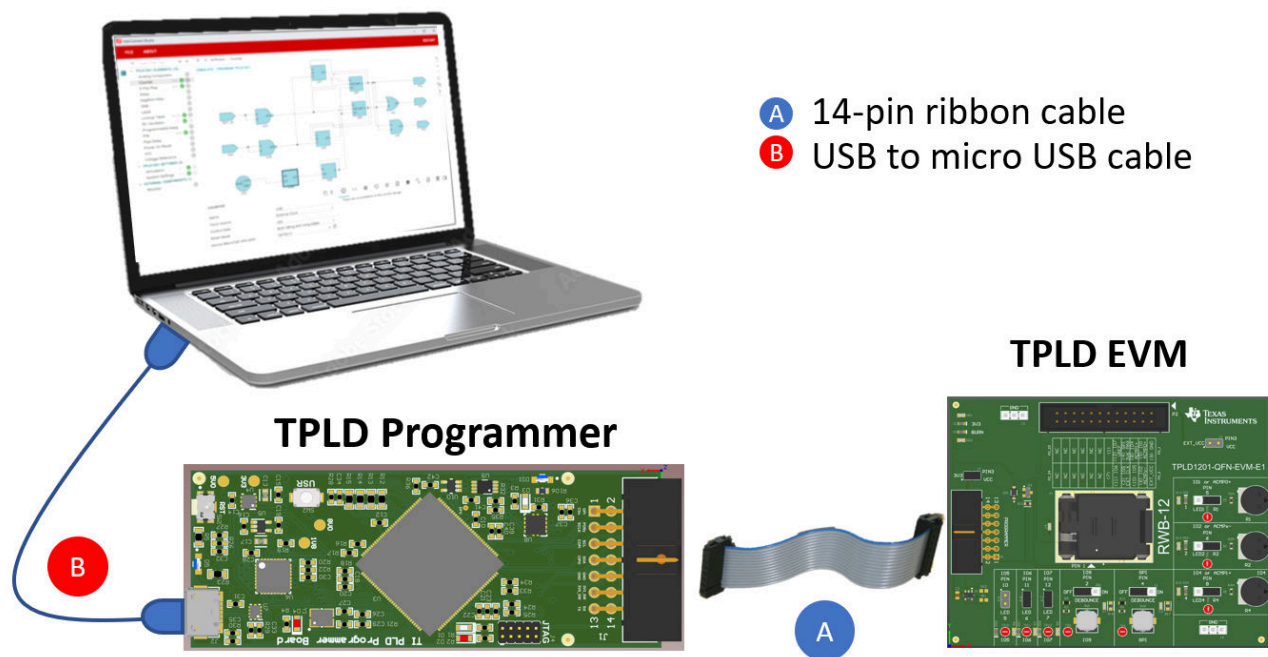

Figure 3-1. Connecting a TPLD EVM and Programmer
1. Connect the programmer board to a computer running InterConnect Studio using the provided USB cable. Make sure that a good connection is made between the TPLD-PROGRAM and the computer, indicated by the two blue LEDs on the TPLD-PROGRAM both being on. An example of a fully connected EVM can be seen in Figure 3-1.